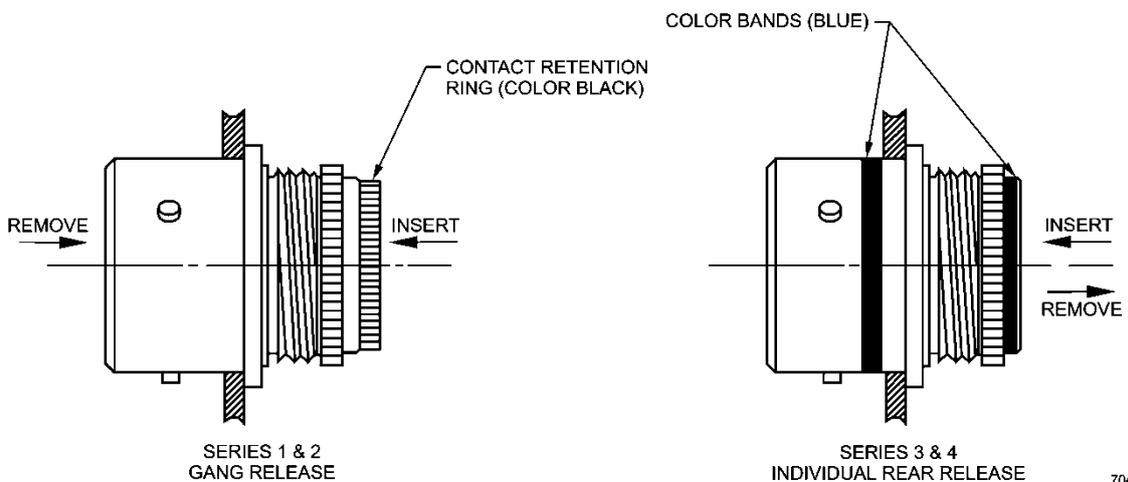

Figure 10-57 Colour Marking for Individual Release MIL-C-81511 Connectors
h. Cable Clamps for MIL-DTL-38999 connectors are described in paragraph 98 and Figure 10-57.